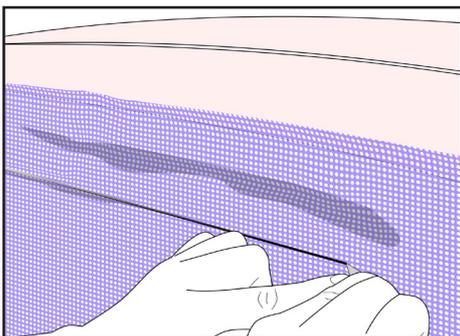

Figure 28
- › Cut the micro-perforated film flush with the top of the window. (FIG. 28)